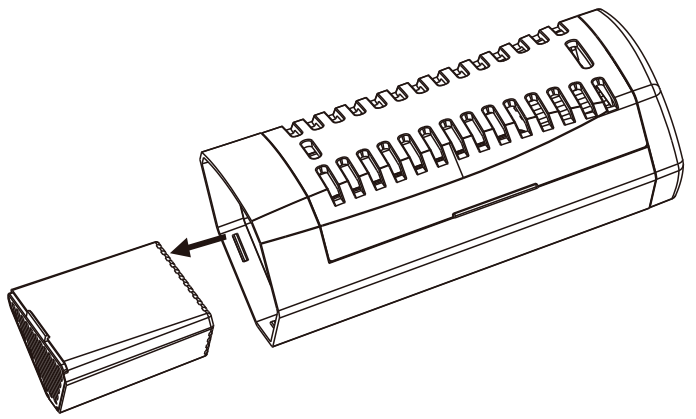

Fig.12
2.Pull out the filter cage from the pump body and take out the replacement filter media and re-install. (Fig.10~Fig.12)